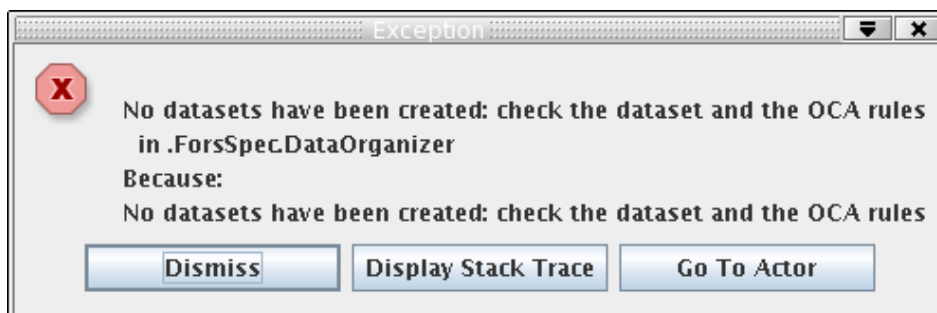

Figure 11.1: *TheDataOrganizer* interactive window reports an error “:No DataSets have been created, check the data set and the OCA rules.”.
- (b) **The DataOrganiser fails with the error message “:No DataSets have been created, check the data set and the OCA rules.”(see Figure 11.1.)**